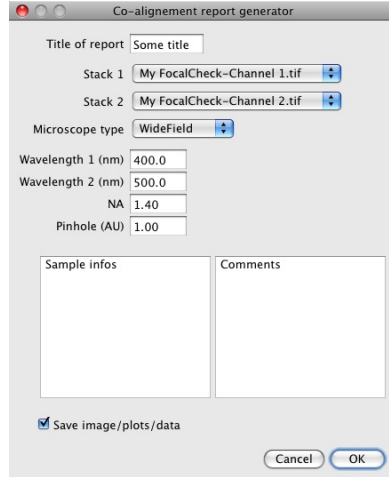

Figure 3.3: Generate co-alignment report: the interface.
4. The plugin's interface should appear (see fig. 3.3);